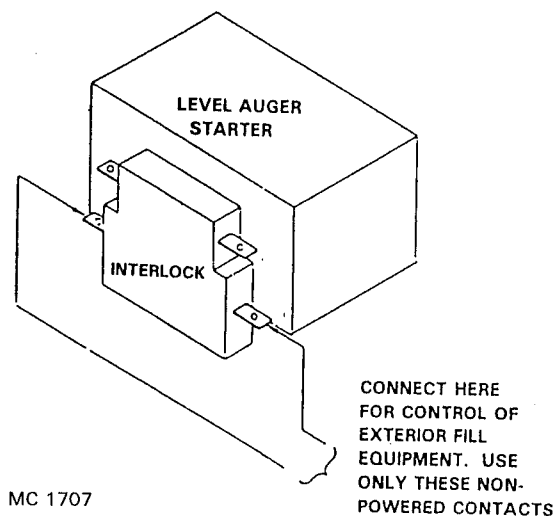

Figure 7B - CF520/620/720 & CF820 Level Auger & Unload Auger Motor Magnetic Starter Non-Powered Auxiliary Contacts
3. On Models CF520/620/720 and CF820, which have a level auger, the non-powered auxiliary contacts of the level auger starter are used to control the fill auger motor magnetic starter coil. See Figure 7B.
4. On Models CF520/620/720 and CF820 unload auger magnetic starters have non-powered auxiliary contacts that can be used to control the customer supplied take-away equipment. See Figure 7B.